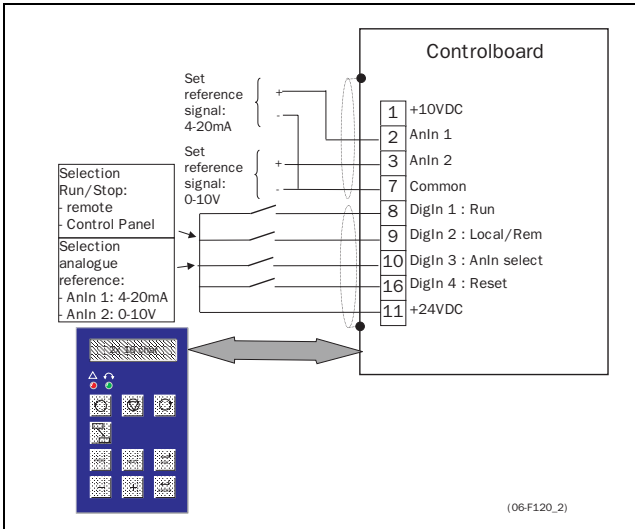

Fig. 41 Local / Remote Ana macro
**NOTE!** Jumper S3 must be set for "current". See § 3.10, page 19. See Fig. 41 for a connection example.